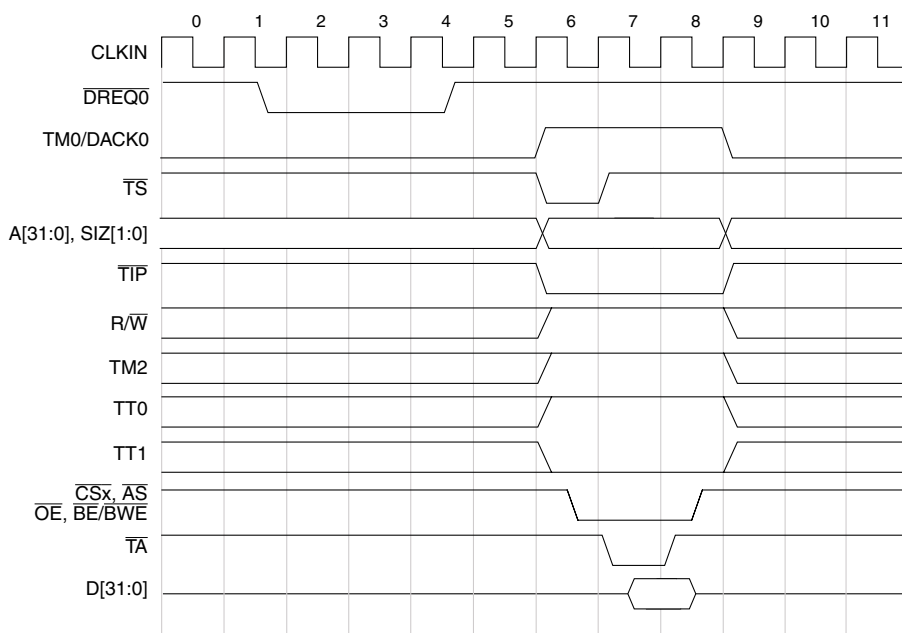

Figure 12-13. Single-Address DMA Transfer
- For single-address transfers,  $\overline{\text{DREQ}}$  must be negated before  $\overline{\text{TS}}$  is asserted for the transfer, as shown in Figure 12-13, clock cycle 4.
Figure 12-13 shows a single-address DMA transfer in which the peripheral is reading from memory. Note that TM2 is high, indicating a single-address transfer. Note that  $\overline{\text{DREQ}}$  is negated in clock 4, before the assertion of  $\overline{\text{TS}}$  in clock 6.